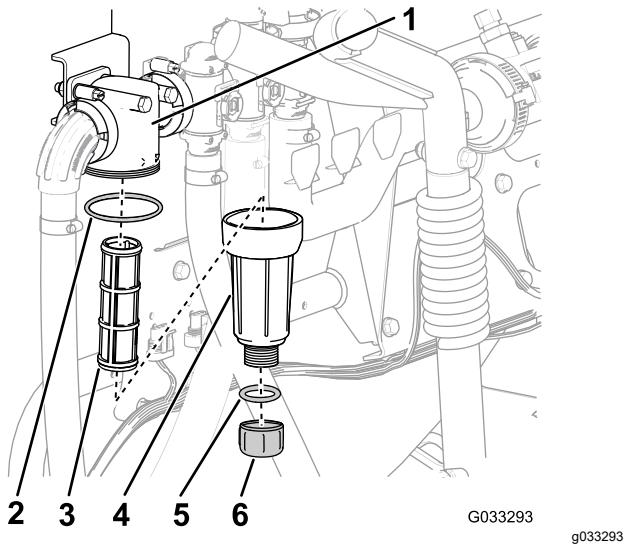

Figure 29
- Align a drain pan under the pressure filter (Figure 29).
- Rotate the drain cap counterclockwise and remove it from the bowl of the pressure filter (Figure 29).
- Rotate the bowl counterclockwise and remove the filter head (Figure 29).
- Remove the pressure filter element (Figure 29).
- Check the gasket for the drain plug (located inside the bowl) and the gasket for bowl (located inside the filter head) for damage and wear (Figure 29).
- Install the pressure filter element into the filter head (Figure 29).
- Install the bowl onto the filter head, and tighten by hand (Figure 29).
- Assemble the drain cap onto the fitting at the bottom of the bowl, and tighten the cap by hand (Figure 29).